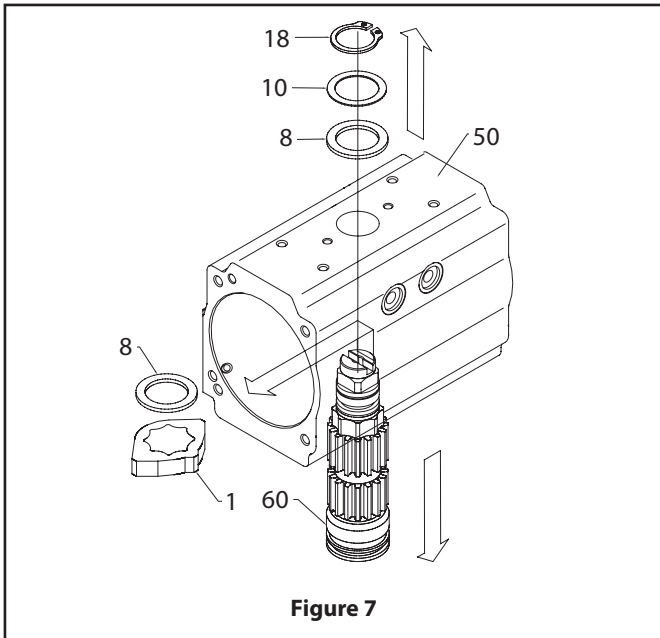

Figure 7
5. Drive Shaft (60) and Bearing (6, 7) Disassembly, (Figure 7):
A. Remove spring clip (18) carefully. Remove external thrust bearing (8) and thrust washer (10).
B. Apply downward force to top of drive shaft (60) until it is partially out of the bottom of the body (50) and the octi-cam (1) and internal thrust bearing (8) can be removed. Remove the octi-cam (1) and internal thrust bearing (8). Push the drive shaft (60) completely out of